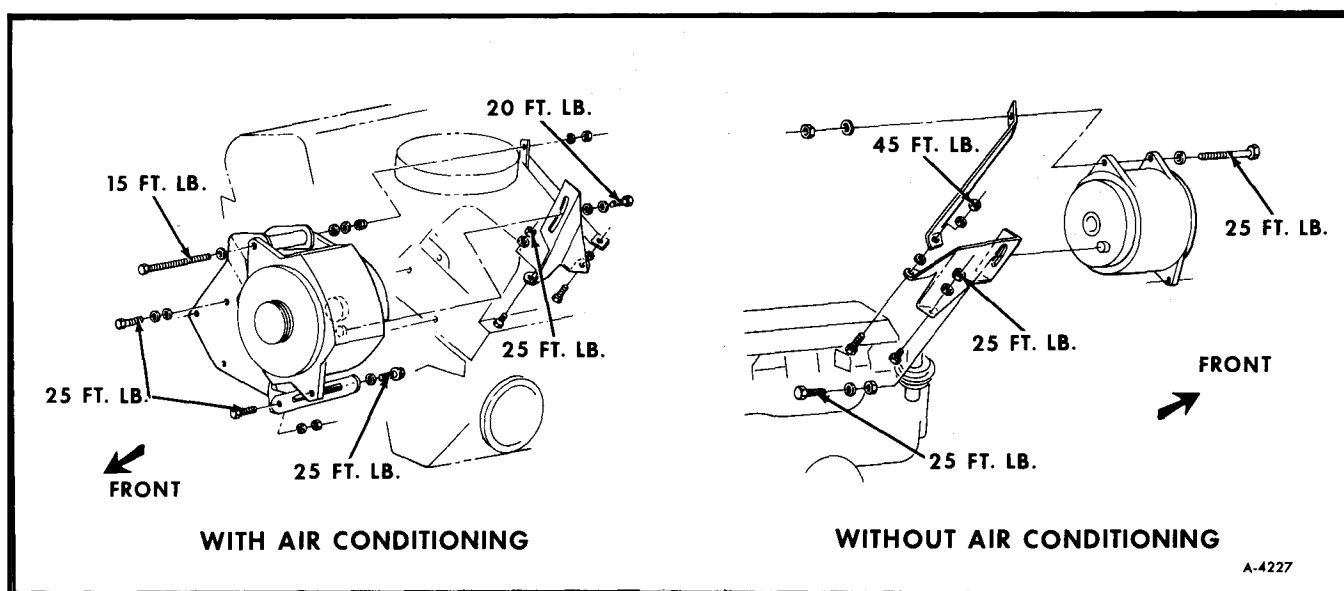

Figure 12—Generator Mounting
c. Tighten mounting bolts to specified torque (figures 12 and 13).
2. Tighten generator adjusting arm bolts and pivot bolt to specified torque (figure 12).